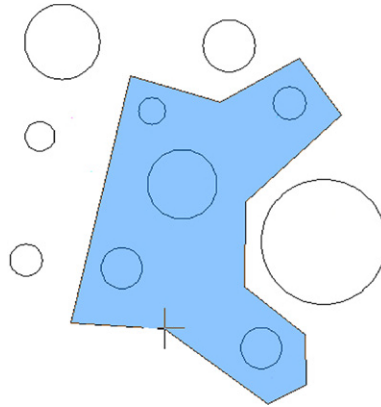

FIGURE 15.40
Step 1. Draw a set of circles, as seen in Figure 15.40.
Notice the difference here between the standard Window selection tool (strictly rectangular in nature) and the flexible “any shape you want it” Window polygon (Figure 15.40). Its action, of course, is similar; everything it encloses is selected.